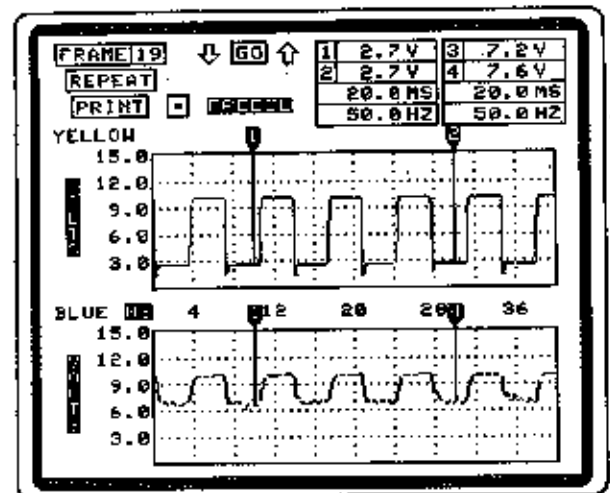

Figure 74
8. Follow the screen prompt and press [GO] to begin recording. The analyzer displays a message indicating that it is recording as it records patterns at the range selected (see Figure 74). The analyzer records 25 frames.